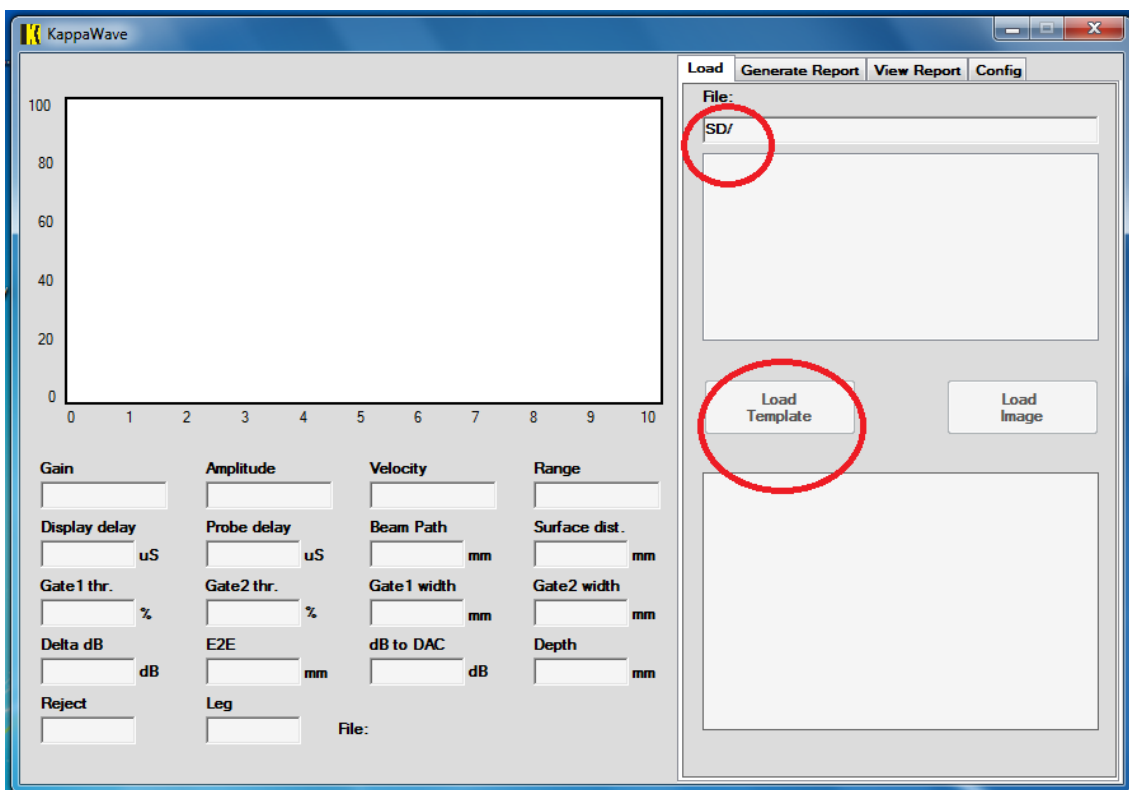

Fig 39. Computer does not access the instrument
8. Figure 39 shows the instrument is not being accessed by the computer. In this case, you should update your driver. There is a detailed step involved in this. Follow the steps below to update the driver.